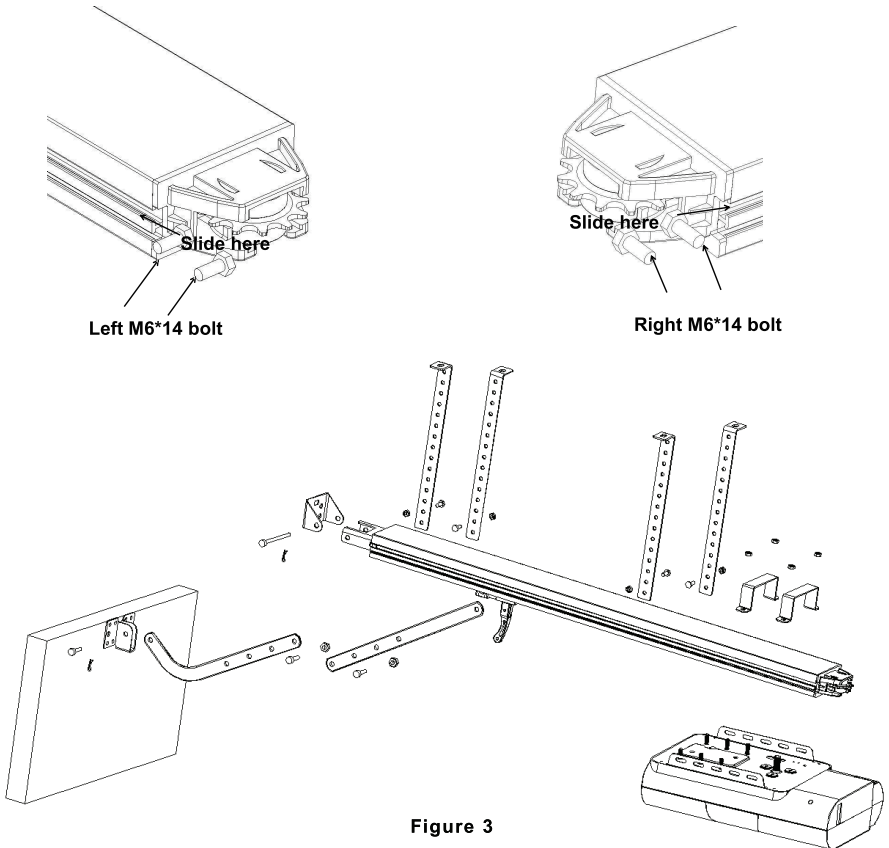

Figure 3
STEP1 (Fig.3)
STEP2 (Fig.3)
STEP3 (Fig.3)
STEP4 (Fig.3, Fig.4)
STEP5 (Fig.3, Fig.5)